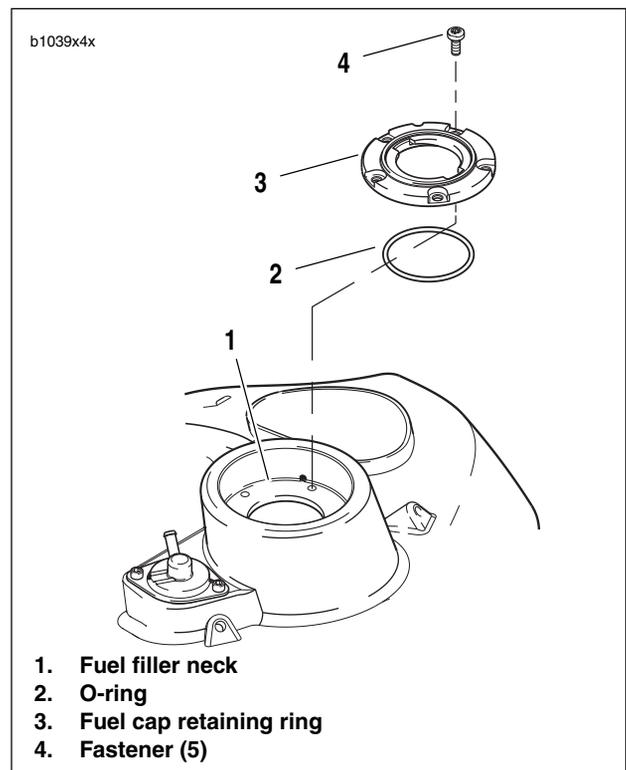

Figure 4-65. Fuel Cap Retaining Ring
3. See Figure 4-65. Remove fasteners (4) securing fuel cap retaining ring (3) to fuel filler neck (1).
4. Remove fuel cap retaining ring and o-ring (2). Discard o-ring.